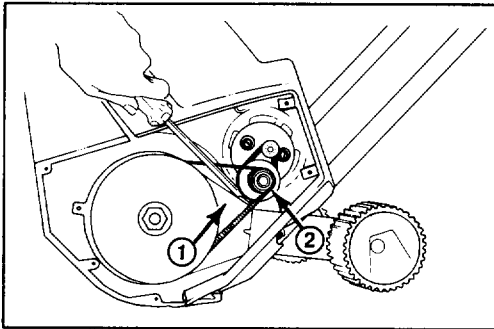

Figure 16
6. If motor was rotated to loosen the belt, you first must rotate motor back into place. Wedging a stick or screwdriver between the housing and the small pulley, apply a force of approximately 32 lbs. in a counterclockwise direction, to rotate motor and pulley back into position as shown in fig. 16. Retighten mounting bracket screws through back of shroud.